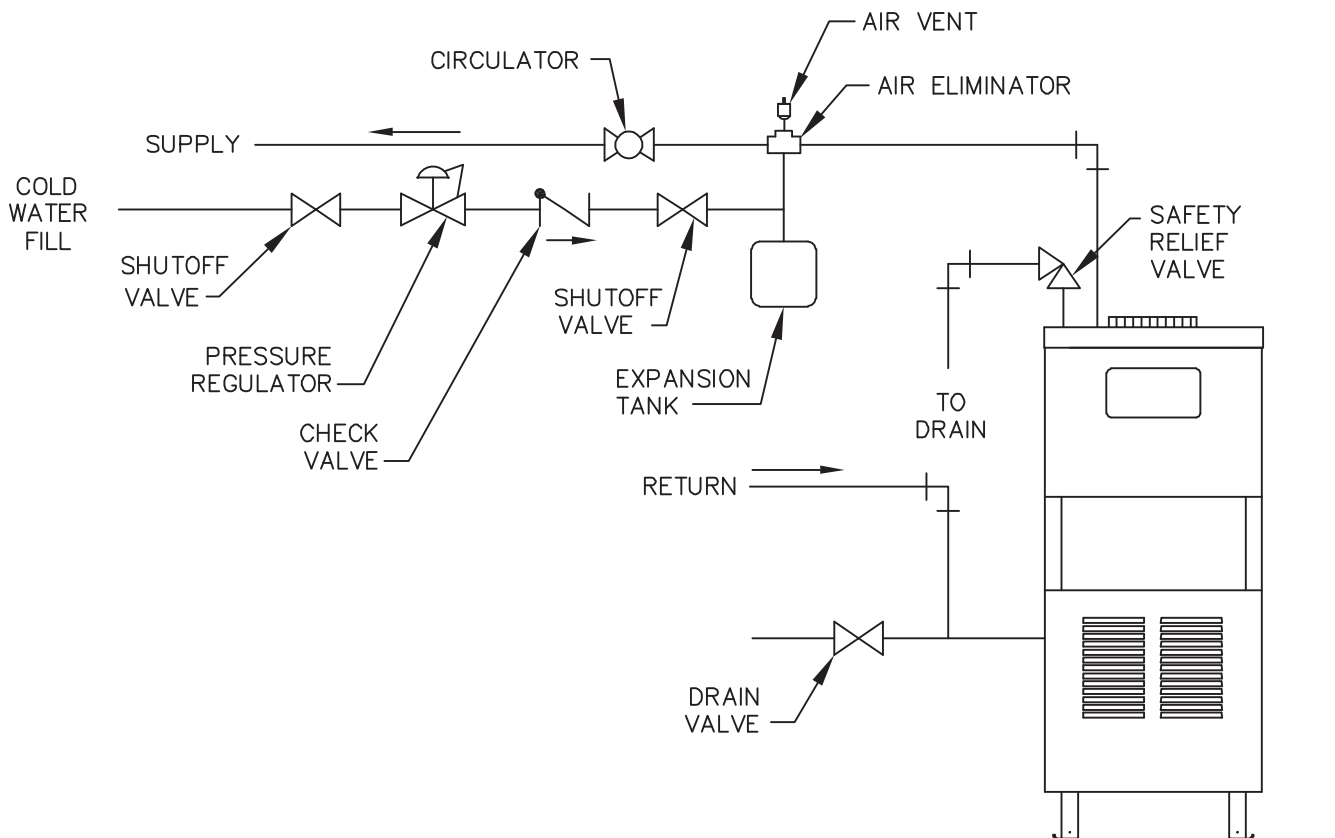

Figure 3.1: Supply and Return Piping
1. Size the supply and return to suit the system. A typical piping arrangement is shown in Figure 3.1. Refer also to the I=B=R Guide - Residential Hydronic Heating Installation/Design and the PB Heat Water Survey for additional guidance during water piping installation.
Pipe the drain valve to a tee, provided, and the 1-1/4 NPT return tapping near the bottom of the left section. Pipe the return to the tee. Pipe the drain valve nipples and tee to the 1-1/4 NPT return tapping as shown in Figure 3.1.
2. Expansion tanks are available with built-in fill valves and check valves for reducing supply water pressure and maintaining minimum system pressure. Check the design features of the tank and provide valves as necessary. Refer back to Figure 3.1 for typical expansion tank piping.